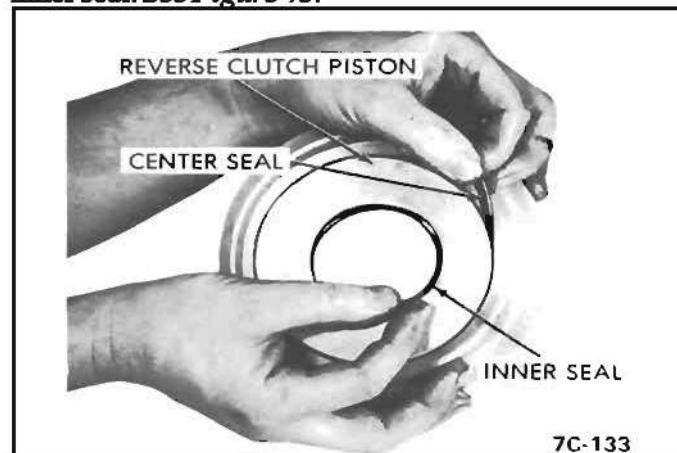

Figure 43 Reverse Clutch Piston Center & Inner Seal Removal
2. Remove low and reverse clutch piston center and inner seal. *See Figure 43.*